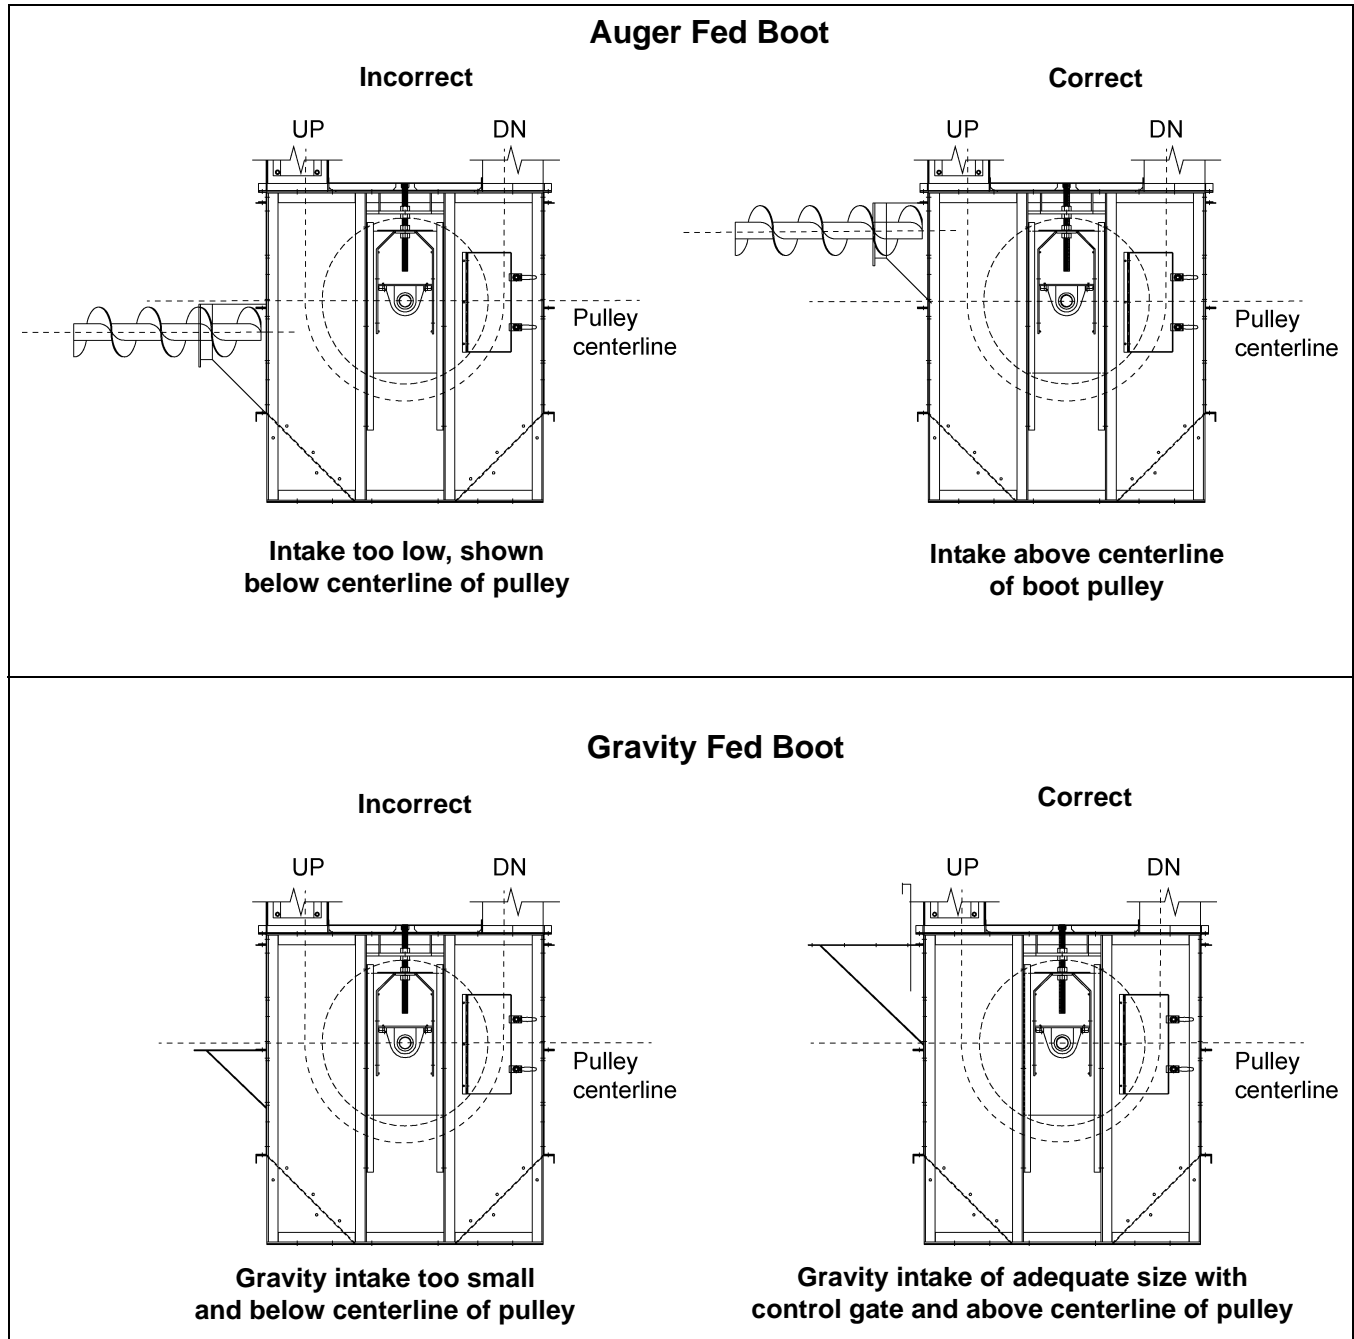

Figure 4C Boot Intake Conditions
1. The method and location of intake openings in the boot usually will have been determined when the elevator was ordered. However, if the intake arrangements have or are being changed, several factors must be considered. (See Figure 4C.)